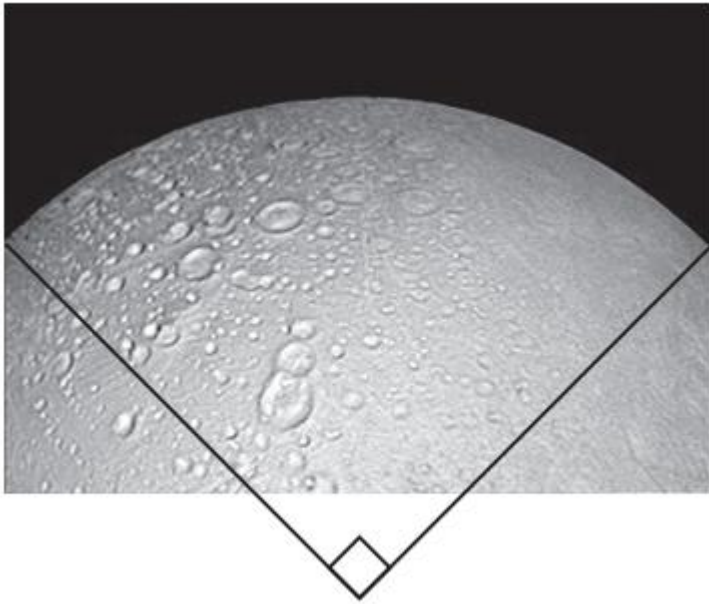

Fig. 3.1
3. The Cassini-Huygens spacecraft took images of Saturn's moon Enceladus when the spacecraft was about 6000 km from Enceladus. One such image is shown in **Fig. 3.1**.
- (b) (i) Two radii of the moon Enceladus have been added to **Fig. 3.1**. The resolution of the image is 330 m per pixel.